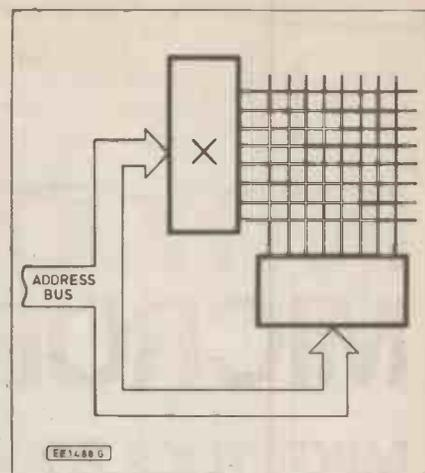

Fig. 9.3. See question 3.
- (3.1.3) Fig. 9.3 shows the simplified arrangement of a memory cell matrix. The feature marked "X" is a